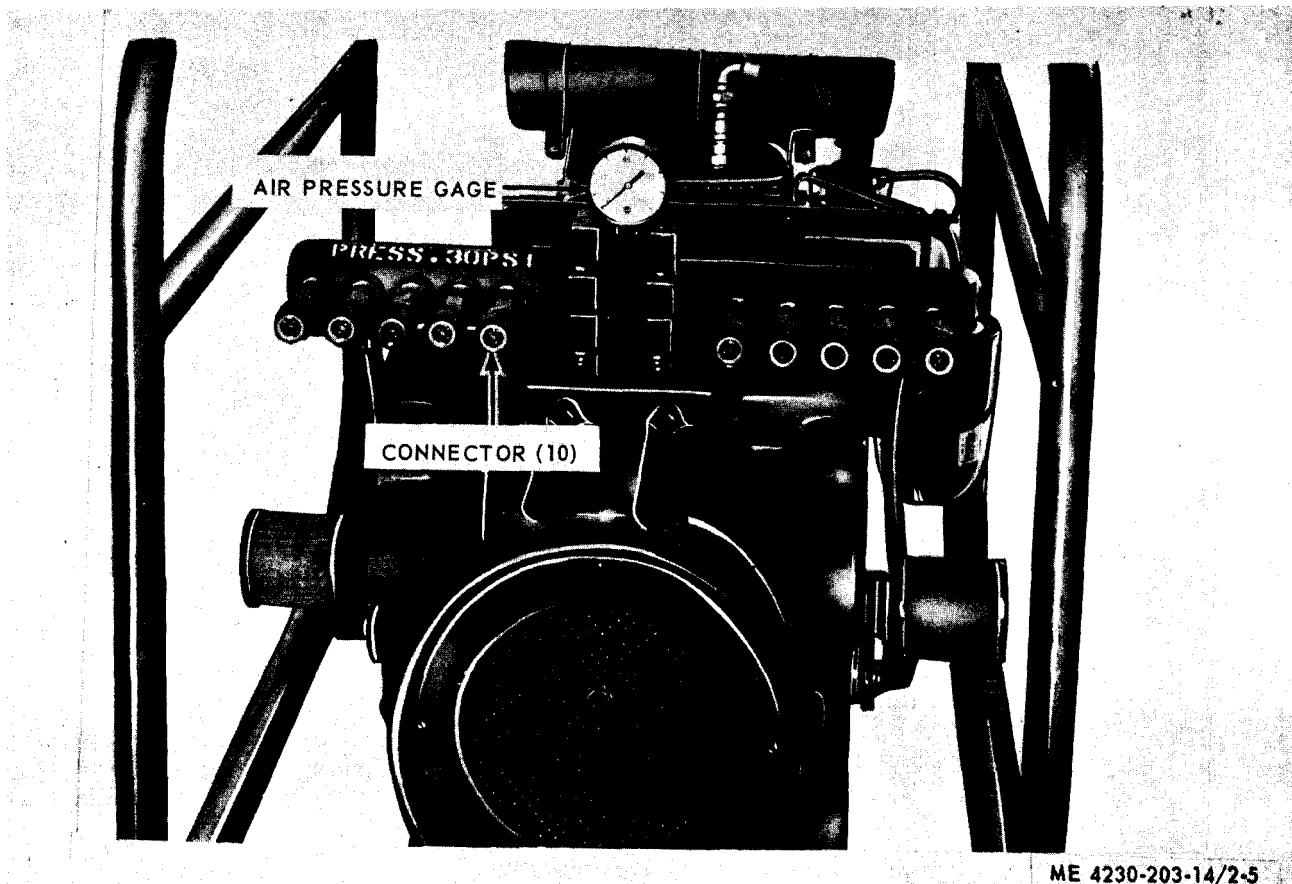

Figure 2-5. Air pressure gage and hose connectors.
a. Connect the host assemblies to the connectors (fig. 2-5).